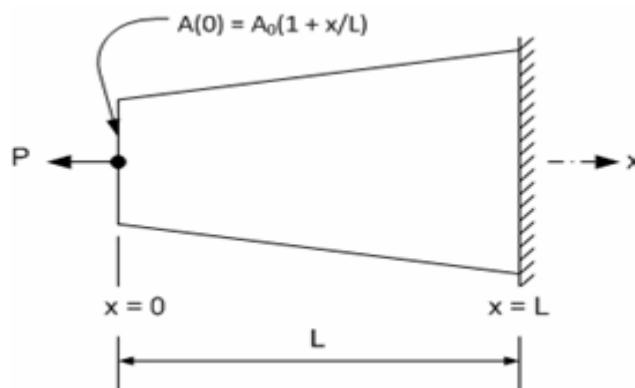

Fig. 2
- (b)** Solve and compare for the axial displacement and stress in the tapered bar shown in fig. 2 using one, two and three constant area elements. Evaluate the area at the center of each element length. Use that area for each element. Let $A_0 = 200 \text{ mm}^2$, $L = 300 \text{ mm}$, $E = 200 \times 10^9 \text{ N/m}^2$ and $P = 200 \text{ KN}$. **07**